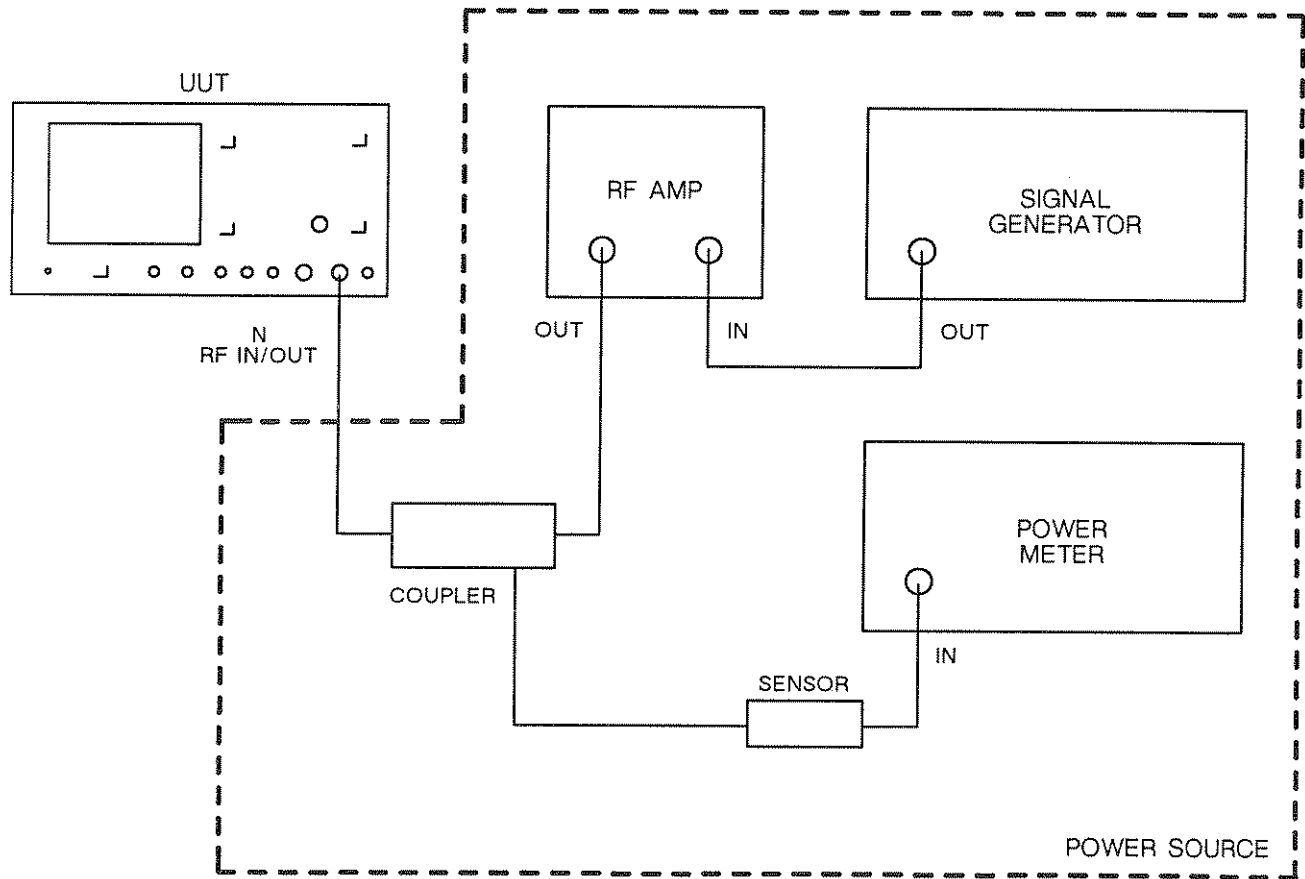

Fig. 5-17 Test equipment connections for RF power meter measurement accuracy
- (1) Connect the equipment as shown in Fig. 5-17, using the high frequency coupler. But note that the power source must be calibrated at the frequencies to be checked.
- (2) Set the UUT to TX, N input socket.
- (3) Set the power source to give an output of 2 W at 100 MHz.
- (4) Check that the UUT indicates 2 W  $\pm 10\%$   $\pm 1$  digit.
- (5) Set the power source to give 220 mW.
- (6) Check that the UUT indicates 220 mW  $\pm 10\%$   $\pm 1$  digit.
- (7) Repeat the above for random frequencies between 100 and 500 MHz.
- (8) Repeat for random frequencies between 500 and 960 MHz and check that the UUT indicates the power sent  $\pm 15\%$   $\pm 1$  digit.
- (9) Repeat for random frequencies between 960 and 1000 MHz and check that the UUT indicates the power sent  $\pm 20\%$   $\pm 1$  digit.
- (10) Replace the high frequency directional coupler (HP 778D) with the low frequency coupler.
- (11) Repeat the above checks for random frequencies between 1.5 and 100 MHz and check that the UUT indicates the power sent  $\pm 10\%$   $\pm 1$  digit.